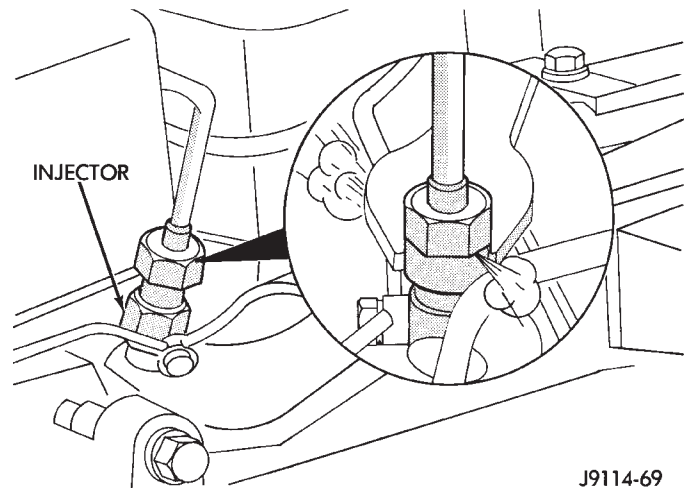

Fig. 23 Bleeding High-Pressure Fuel Line—Typical FUEL INJECTION PUMP TIMING
(1) Loosen the high-pressure fuel line fitting at the injector (Fig. 23).
(2) Crank the engine until all air has been bled from the line. **Do not operate the starter motor for longer than 30 seconds. Wait 2 minutes between cranking intervals.**
(3) Start the engine and bleed one injector at a time until the engine runs smoothly.